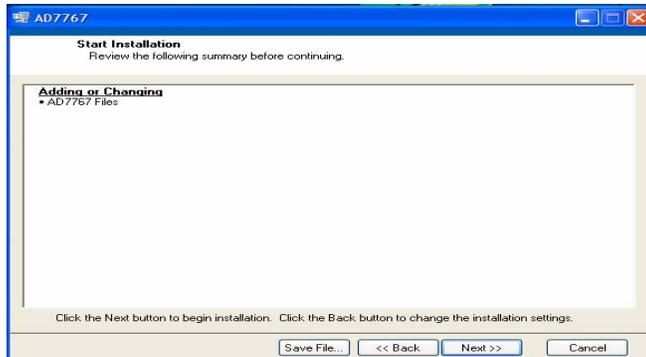

Figure 5. AD7766/-1/-2 Install actions
4) To start the installation, click the “Next” button as shown in Figure 5. This window details the actions of the installation.